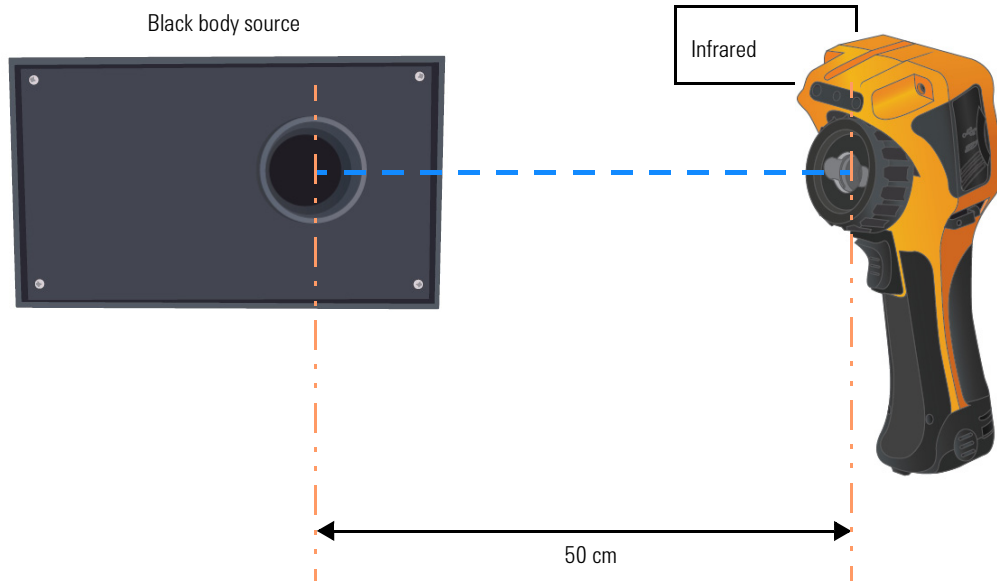

Figure 1-1 Test setup for Range 1 and Range 2 verification
- Figure 1-1 Test setup for Range 1 and Range 2 verification 5
- 1 Set up the U5855A and the black body source as shown in Figure 1-1.